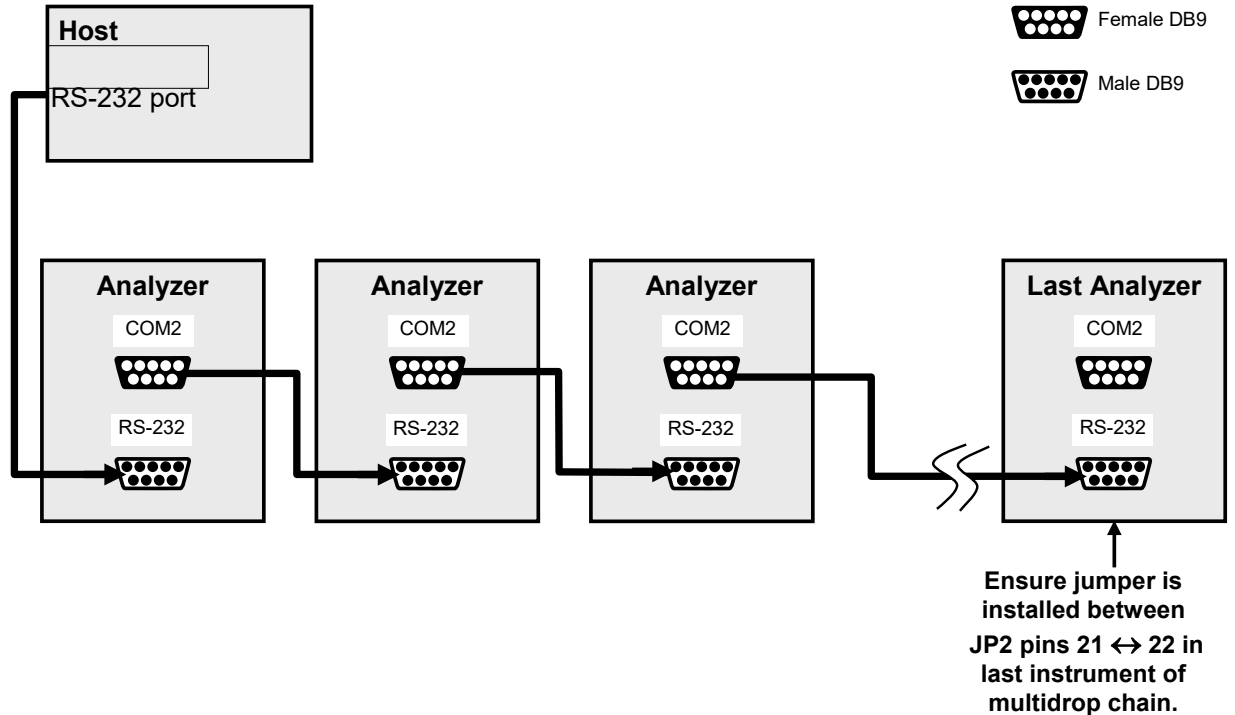

Figure 2-13. RS-232 Multidrop PCA Option Host/Analyzer Interconnect Diagram
5. Referring to Figure 2-13 use straight-through DB9 male → DB9 female cables to interconnect the host RS232 port to the first analyzer's RS232 port; then from the first analyzer's COM2 port to the second analyzer's RS232 port; from the second analyzer's COM2 port to the third analyzer's RS232 port, etc., connecting in this fashion up to eight analyzers, subject to the distance limitations of the RS-232 standard.